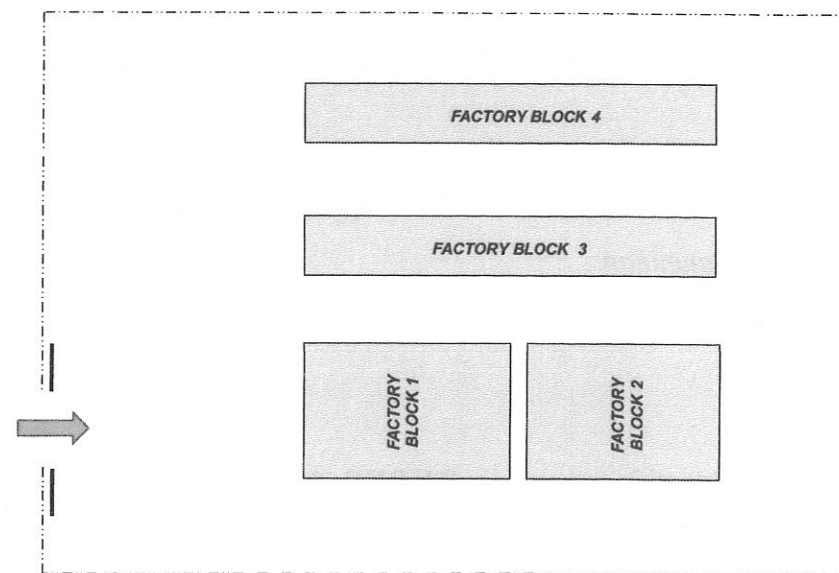

FIGURE 2(c) / RAJAH 2(c)
- (c) A rubber factory building is to be built as shown in **Figure 2(c)**. Draw and label a schematic layout of the fire hydrant system in the given figure.